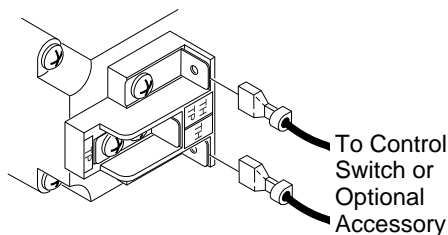

Figure 36 - Control Valve Terminals
1. Connect one terminal of 25 ft. wire for the wall switch to the TPTH terminal on the valve. Connect remaining wire terminal to the TH terminal on the valve. Make sure that the wire terminals are in the positions on the unit as pictured in Figure 36. If wires are not connected as shown, the switch will not work.
3. Connect one terminal of the wire for the wall thermostat to the THTP terminal on the valve. Connect remaining wire terminal to the TH terminal on the valve. Make sure that the wire terminals are in the positions on the unit as pictured in Figure 36. If wires are not connected as shown the thermostat will not work.
2. Disconnect wires from THTP and TH on control valve that lead to the switch (see Figure 36, page 16). Discard switch plate, screws, and nuts.
6. Connect the wires from the receiver to the valve at TH and THTP (see Figure 36, page 16).